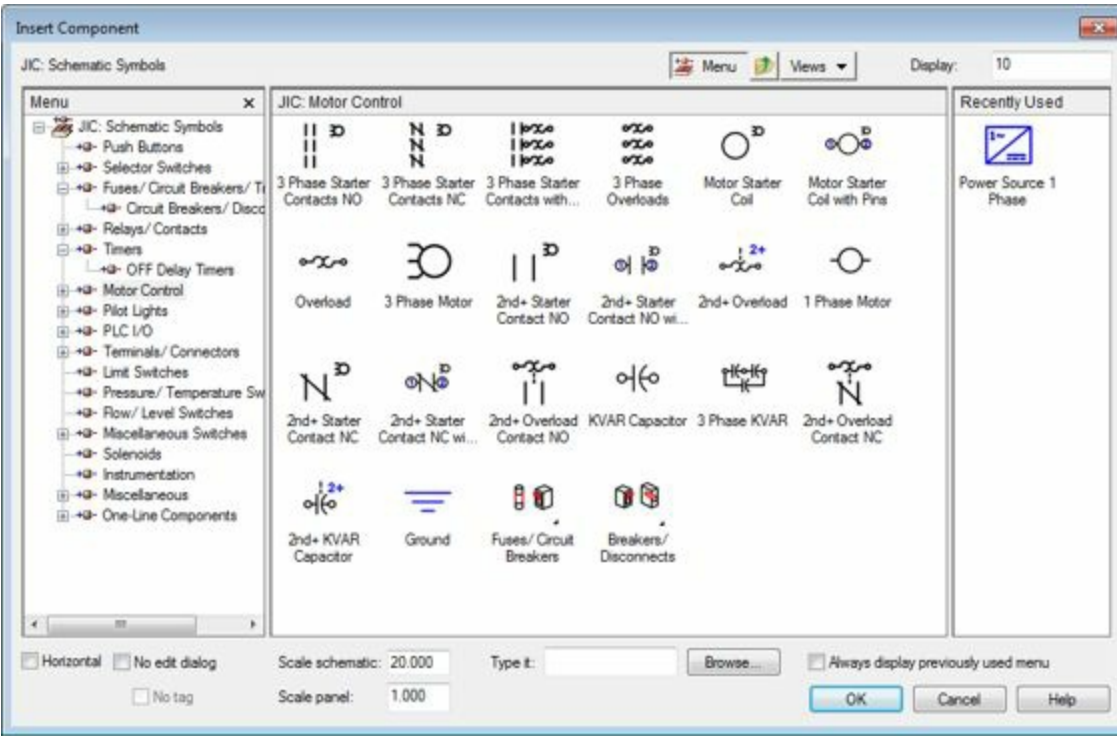

Figure-20. Components of Motor Control
- Click on the Icon Menu button once again and Select the Motor Control category. The components for motor controls will be displayed; refer to Figure-20.